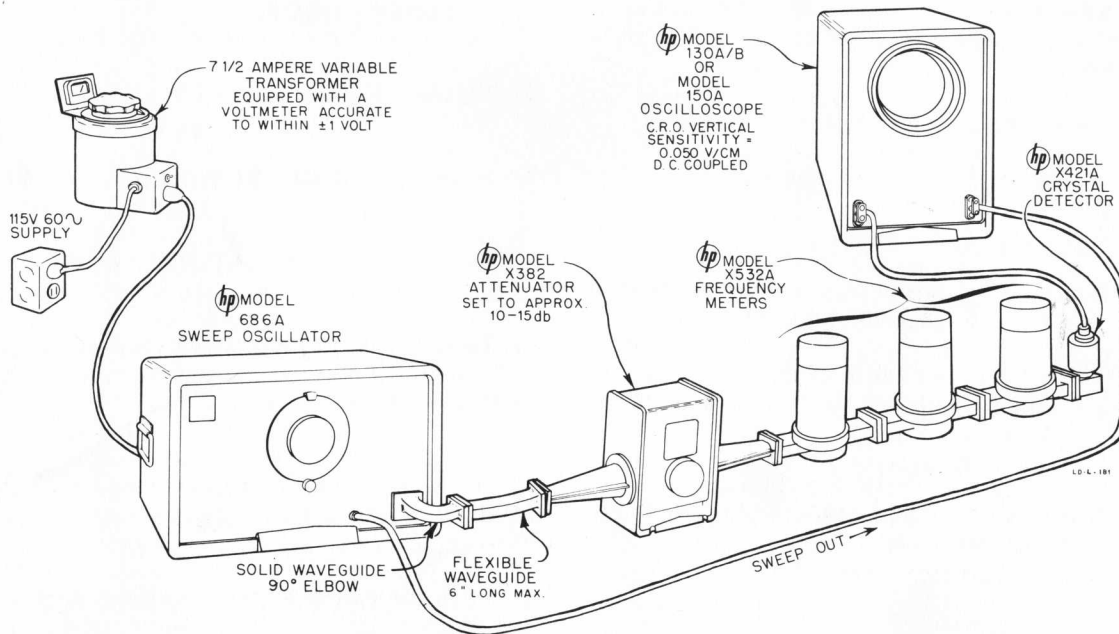

Figure 4-2. Checking Frequency Calibration and General Performance
1) Connect a wavemeter and detector system to the sweep oscillator as shown in Figure 4-2.
1) Set up the equipment as in Figure 4-2.
1) Set up equipment as shown in Figure 4-2.
- 1) Set up equipment as shown in Figure 4-2.